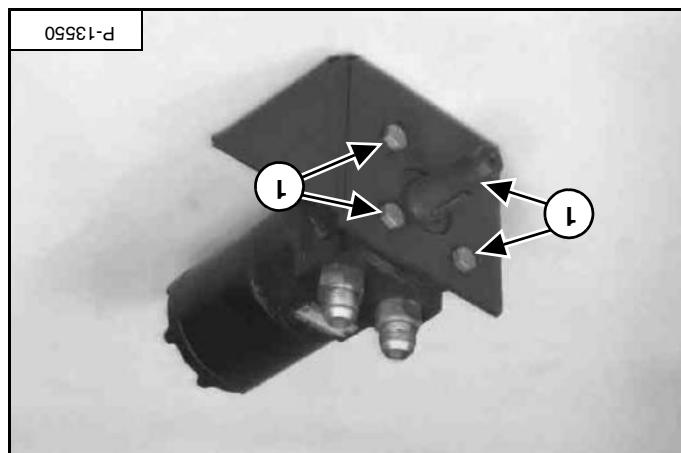

Figure 141
Remove the four hydraulic motor mounting bolts (item 1) [Figure 141].